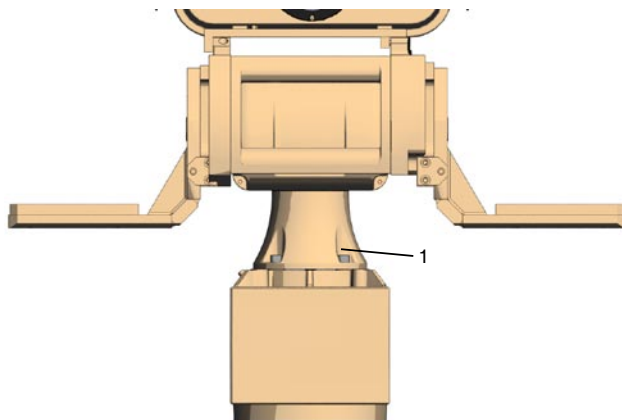

Figure 9.1 Pan/Tilt unit and JPC2
2	Tighten the four M8 x 20 screws, Figure 9.1, item (1).